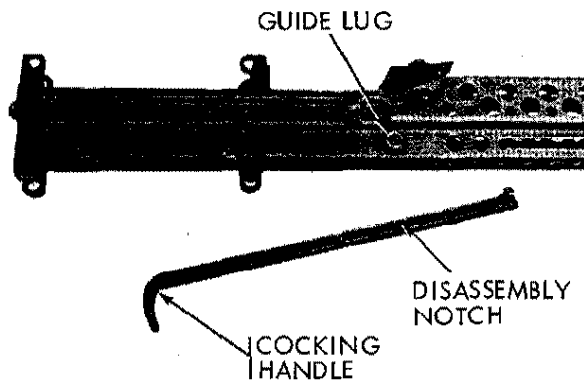
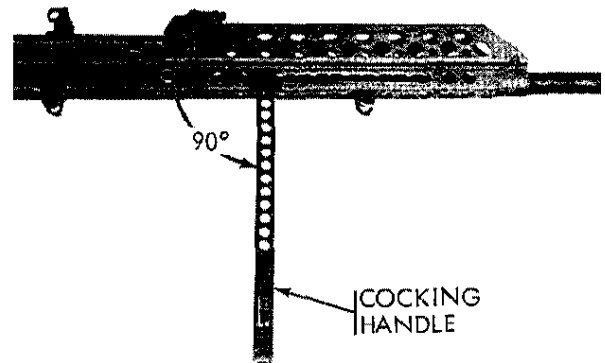

FIGURE 14. COCKING HANDLE GUIDE LUG AND DISASSEMBLY NOTCH
FIGURE 15. COCKING HANDLE ROTATED 90°
(3) Pull back on the cocking handle until the guide lug on the receiver is aligned with the disassembly notch on the cocking handle (fig. 14). Rotate the cocking handle downward 90° (fig. 15) and remove.
(1) Replace the cocking handle (fig. 15).